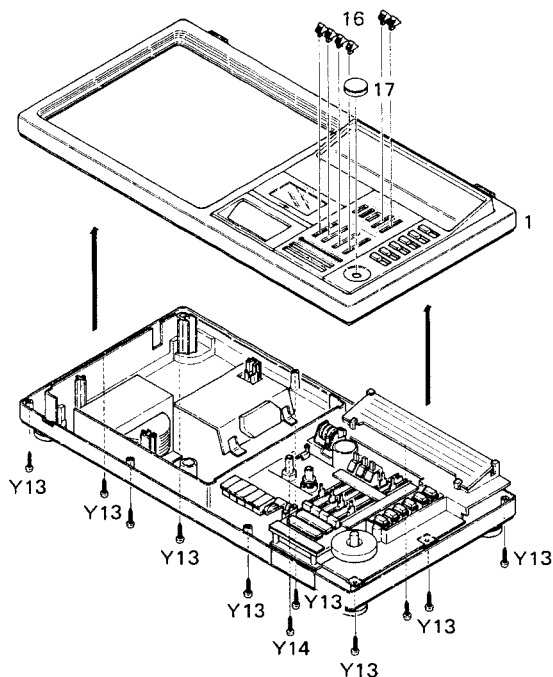

Fig. 2
B. Removing deck panel (cf. Fig. 2)
1. Detach from their shafts six slide knobs (16) and one tuning knob (17) for operation control.
2. Remove the 10 screws (Y13) and the screw marked (Y14), and the deck panel (1) will come off.